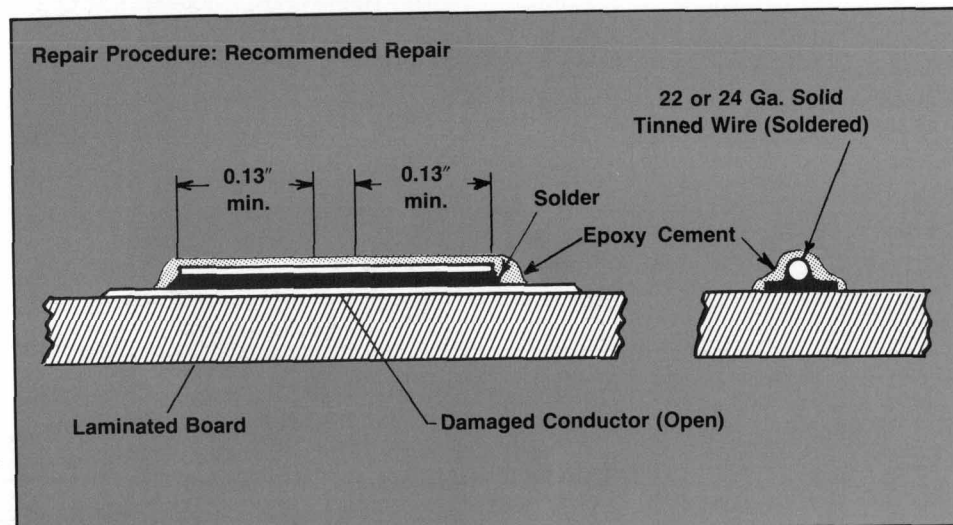

Figure 27. Wire jumper repair on damaged trace.
3. Hold the wire on the center line of the trace across the break and solder in place (see Figure 27).